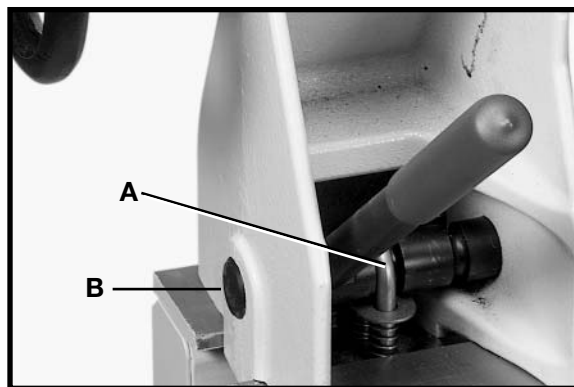

Fig. 79
Use a light oil to lubricate eccentric (A) Fig. 79, and pivot points (B) on both the headstock and the tailstock. (Tailstock illustrated).